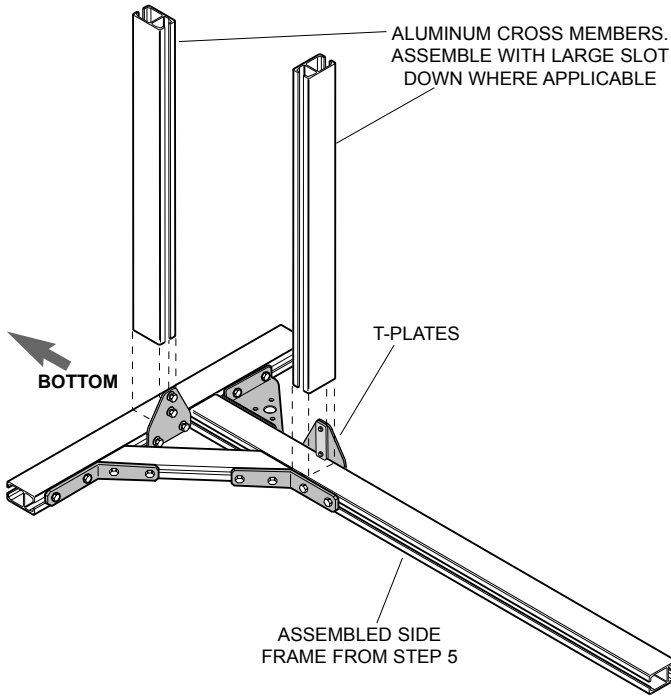

Figure 6.
- Lay one side frame flat and slide two cross members into T-plates. Slide cross members tight against side frame members and securely tighten track nut bolts (Fig 6).